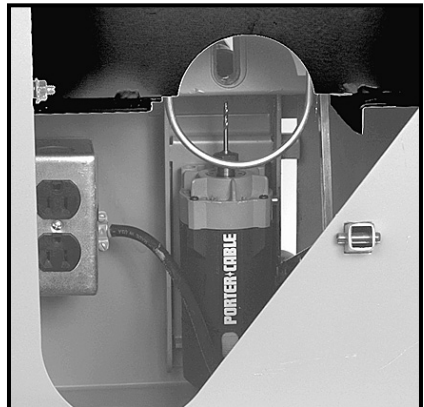

Fig. 10
3. Position drill motor into cabinet as shown in Fig. 10, and secure in place with the mounting screw.